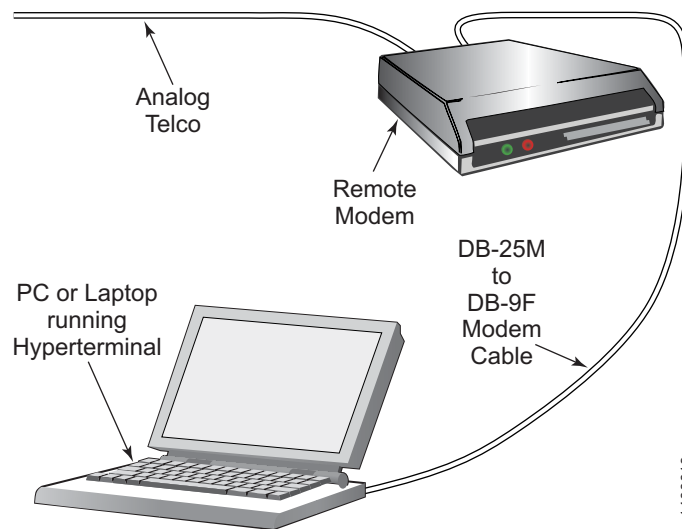

Figure 42. Remote modem setup
1. Connect the remote modem to the workstation, as shown in Figure 42.